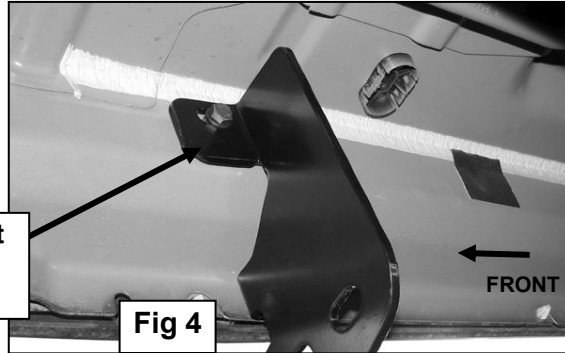
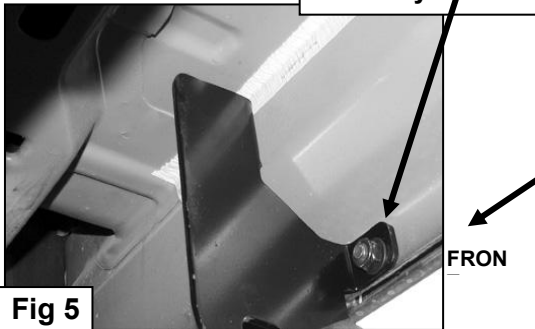

Fig 4
Fig 5
- Select (1) Mounting Bracket. Line up the top mounting hole with the Threaded Insert and the lower hole with the hole in the pinch weld. Bolt the Mounting Bracket to the Threaded Insert with 8mm x 30mm Hex Bolt, 8mm Flat Washer and 8mm Lock Washer, **(Figure 4)**. Bolt the remaining tab on the Bracket to the pinch weld with (1) 10mm x 25mm Hex Bolt, (2) 10mm Flat Washers and (1) 10mm Nylon Lock Nut, **(Figure 5)**. Snug but do not tighten hardware at this time.